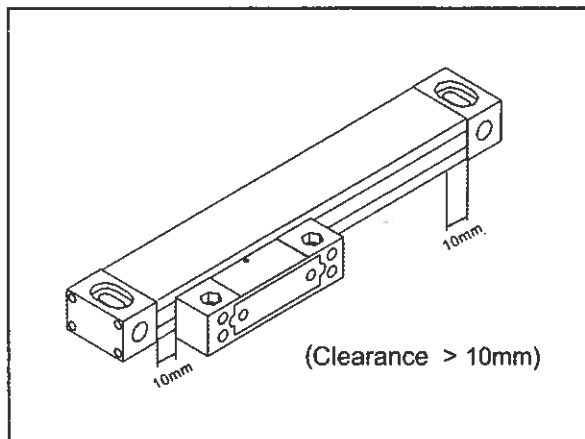

Figure 1. Glass scale clearance.
1. The travel length of the glass scale must be longer than the maximum travel of the machine. There should be at least 10mm of clearance between the ends of the glass scale and the maximum travel of the machine, as shown in **Figure 1**.